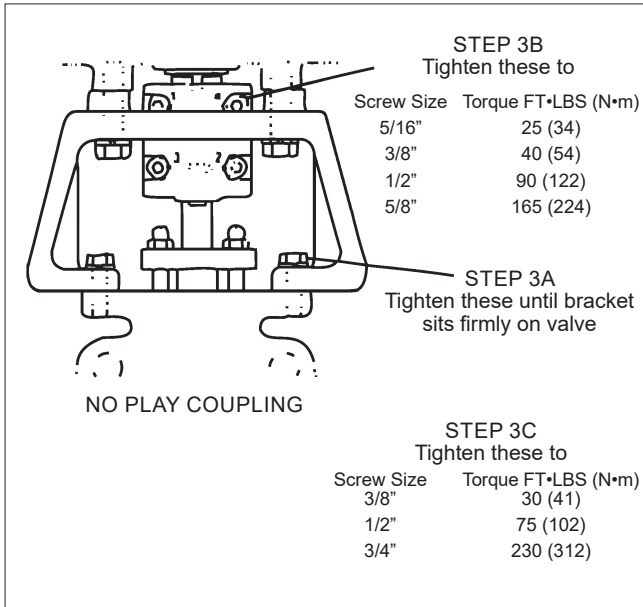

Figure 12.
- c. From **Figure 12**, the ballooned part number, part name and quantity required